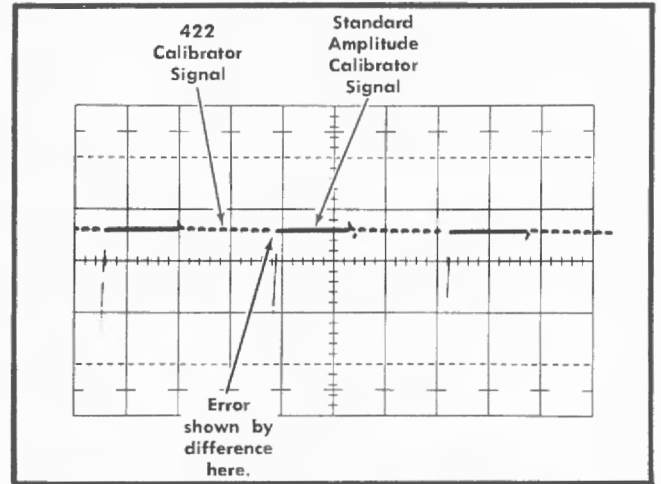

Fig. 6-31. Typical test oscilloscope display when checking external calibrator. Vertical deflection, 0.2 volt/division; sweep rate, five milliseconds/division.
- f. Note the difference between the standard amplitude calibrator output (zero-volt level) and the Type 422 CALIBRATOR output level (see Fig. 6-31).